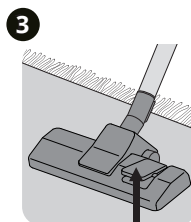

Figure 3
3. For carpet cleaning, use the floor tool with switch position as shown in figure 3.